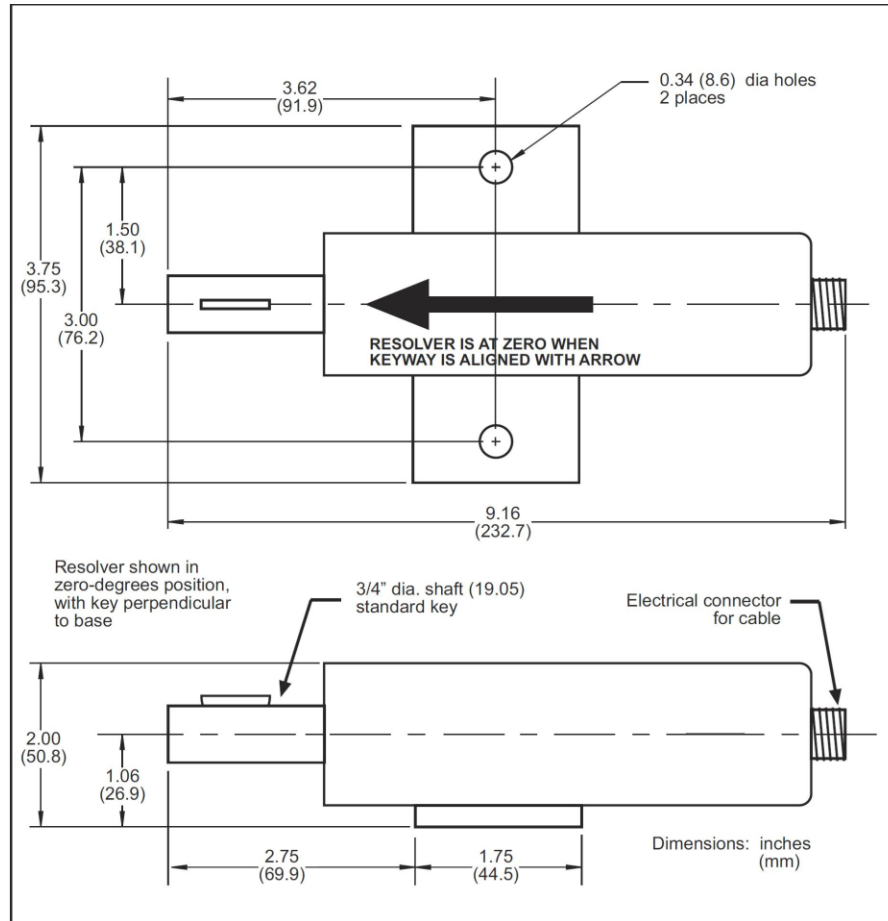

Figure 2-15. Resolver: Mounting Dimensions
3. Rotate the resolver shaft so that the keyway is aligned with the arrow on the housing (see Figure 2-15).